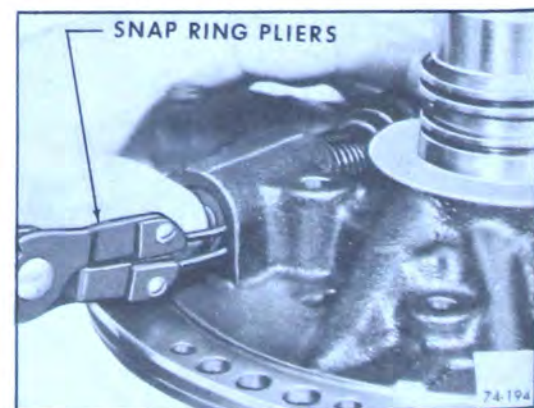

Figure 74-184
10. Compress boost valve sleeve with thumb and remove retaining snap ring. See Figure 74-184.